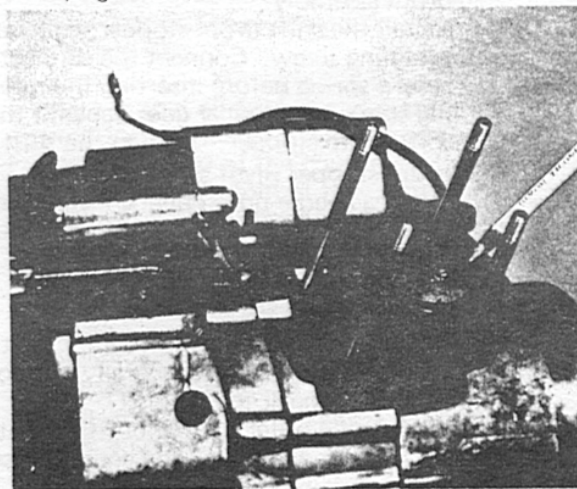

Fig. 20
32. Install the piston pin and piston. When installing the piston, the letters "EX" are to face the exhaust port (front) on the cylinder. It is important to position the piston this way since the piston pin hole is slightly off center for improved performance. If the piston is installed backwards, a loud knocking sound will be heard at low speeds. (Figure 20)